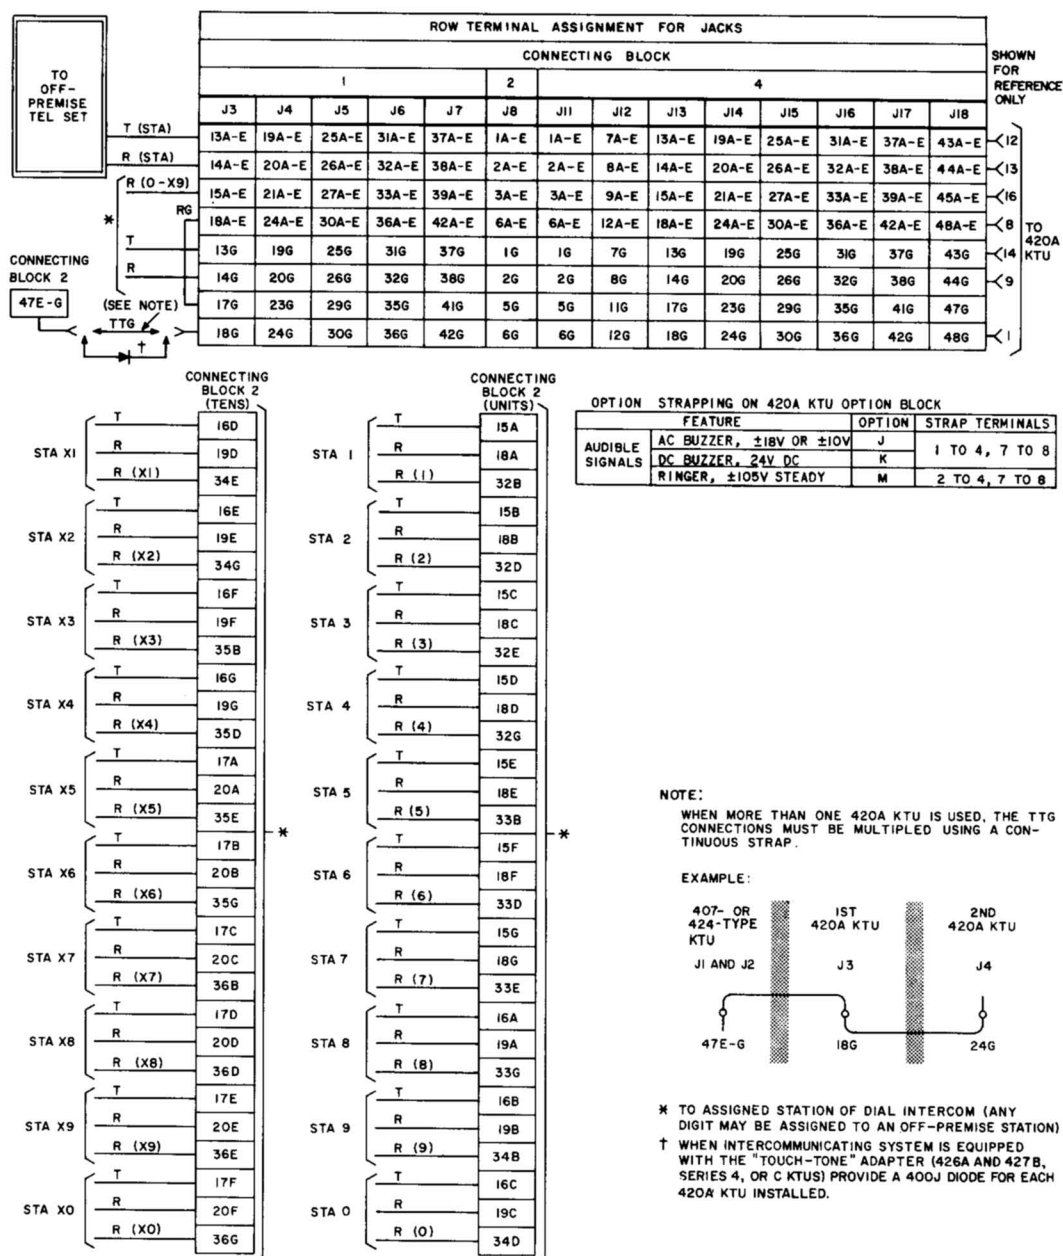

Fig. 20—Connections for 420A KTU (Dial Intercom, Long Line Circuit)
* WHEN ADDING THE 426A AND 427B (SERIES 4) OR C KTUS TO AN EXISTING SYSTEM EQUIPPED WITH A 420A KTU, A DIODE MUST BE INSTALLED IN THE TTG LEAD CONNECTING TO THE 420A KTU. SEE FIG. 20
§ WHEN ADDING THE 426A AND 427B (SERIES 4) OR C KTUS TO AN EXISTING SYSTEM EQUIPPED WITH A 420A KTU, A DIODE MUST BE INSTALLED IN THE TTG LEAD CONNECTING TO THE 420A KTU. SEE FIG. 20.